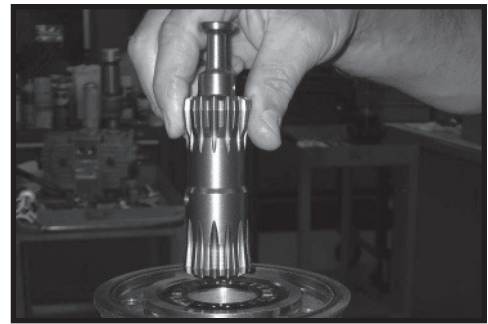

Figure 51
11. Install drive link (10) the long splined end down into the coupling shaft (12) and engage the drive link splines into mesh with the coupling shaft splines. SEE FIGURE 51.